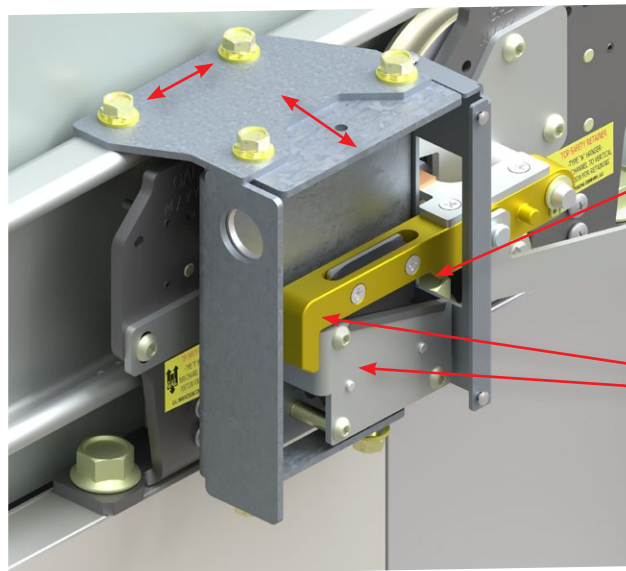

Figure 36: CP Interlock Mounting and Adjustment
5. Remove cover from the interlock and mount the interlock to the track. Adjust interlock so the keeper is aligned with the contacts, as shown in **Figure 36**.